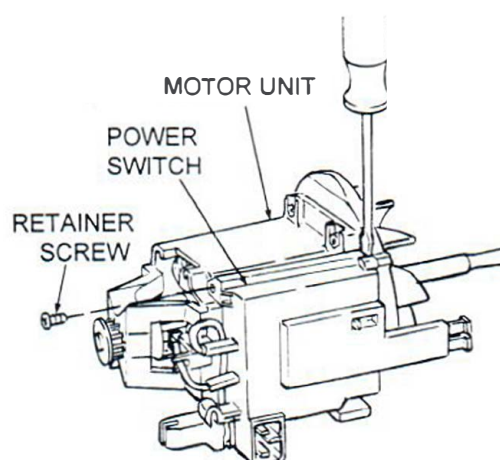

Figure 27. Power Switch Replacement
- A. See Figure 27. If any leads remain attached to the switch, remove them.